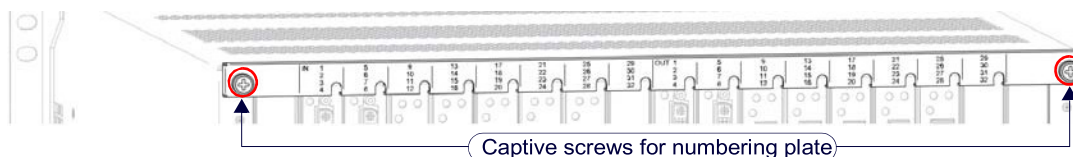

FIG. 1 Enova DGX 32/3200 only - Two captive screws hold numbering plate above boards
4. **Enova DGX 32/3200 only** – Loosen the captive screw on each end of the connector numbering plate above the boards and set the plate aside (FIG. 1):